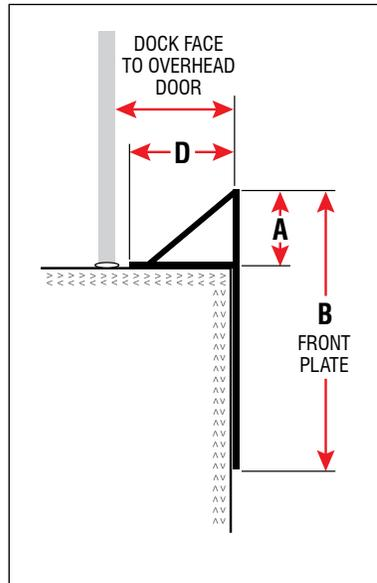

Figure 2
STEP 2: Ensure there is adequate installation space for the TOP PLATE (D) as it must be a minimum of 2" longer than the RISE (A) to offer maximum top impact protection. See Figure 2.
STEP 4: Ensure the front plate of the bracket is a minimum of 2" longer than the bumper height. See figure 2 and 3.